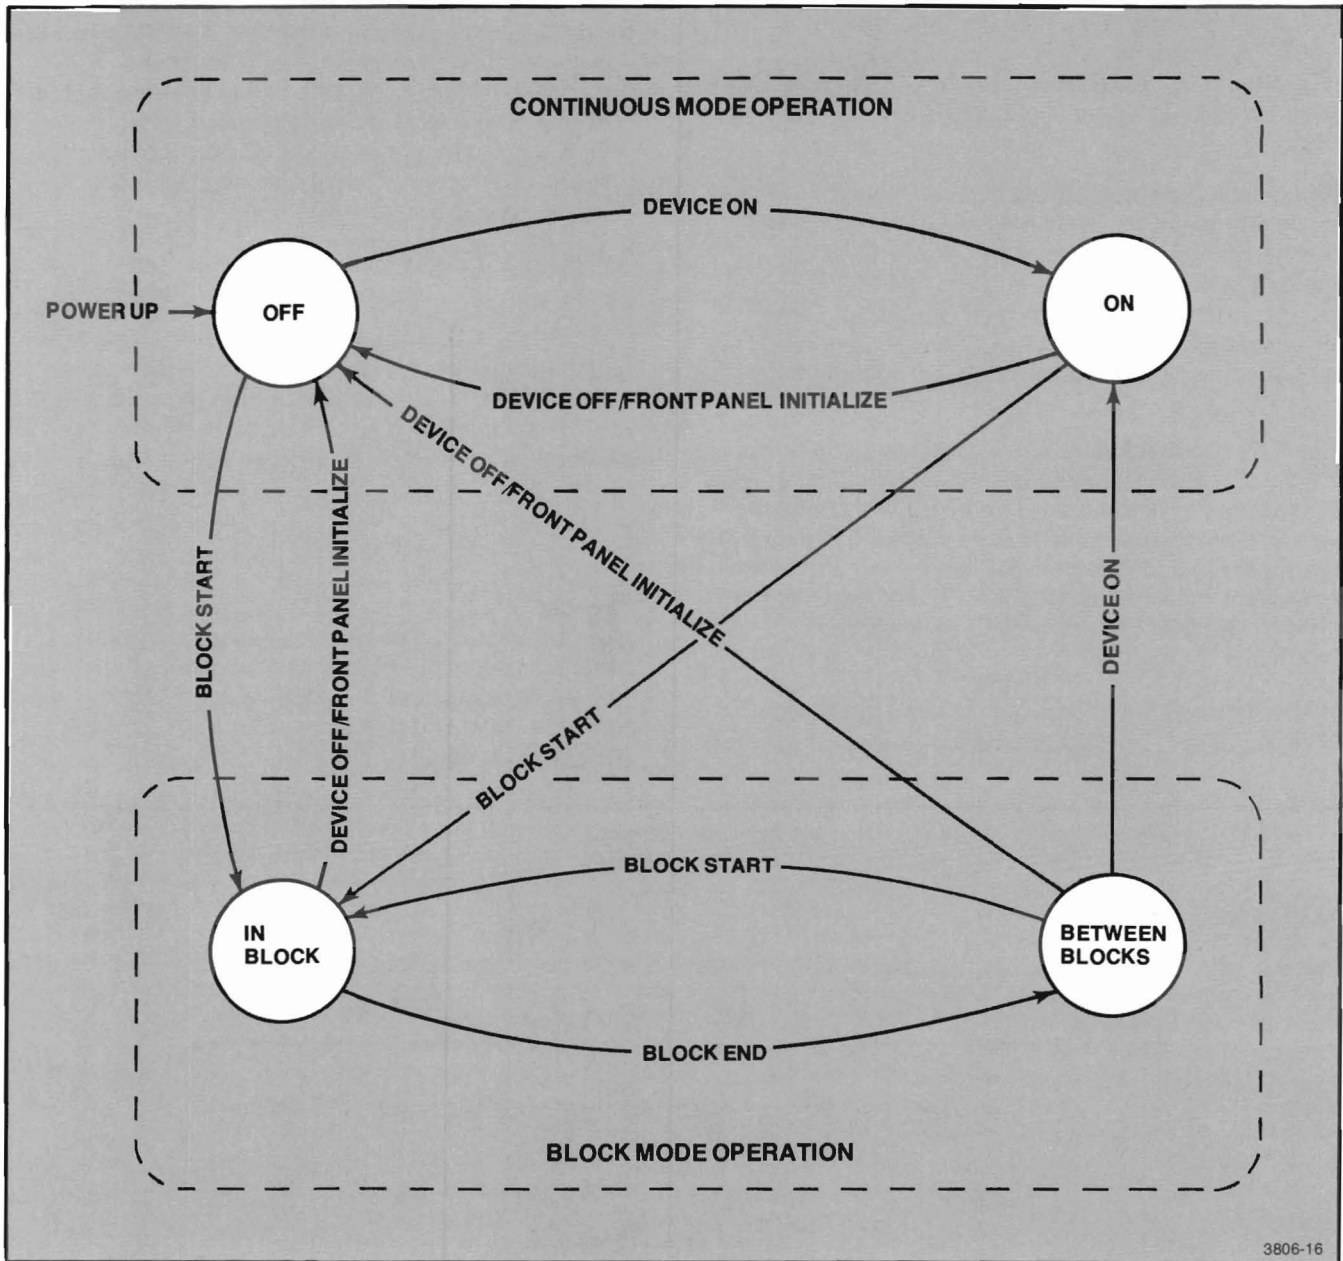

Figure 4-10. Communications Mode State Diagram.
**Turning Block Mode On and Off.** Described here are procedures for enabling and disabling Block mode communications. Figure 4-10 is a state transition diagram that illustrates the relationship between Block mode and Continuous mode. Each circle in the diagram